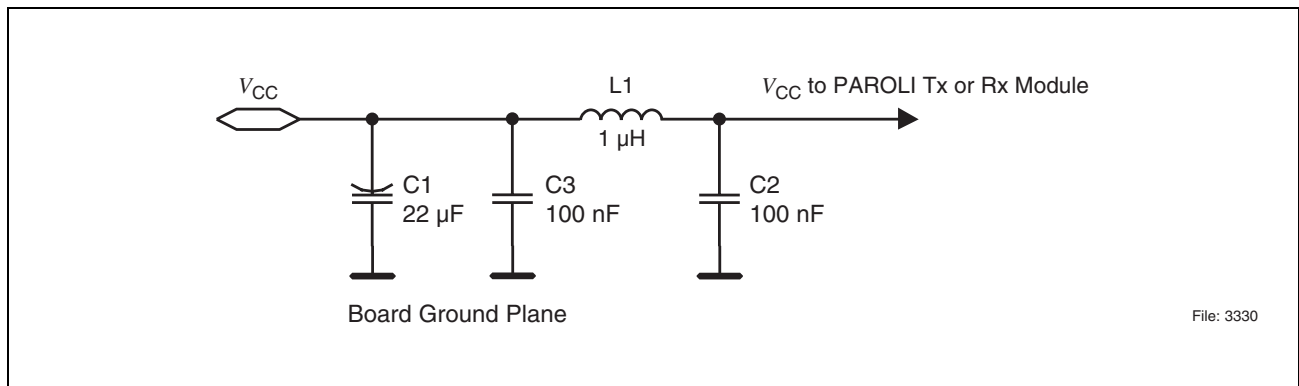

Figure 9 Filtering Scheme
- ²⁾ Noise frequency is 1 kHz to $f_{\max}$, where $f_{\max}$ is equal to the maximum data rate in units of MHz. E.g. for a maximum data rate of 2700 Mbit/s, $f_{\max} = 2700$ MHz. Power supply noise is defined with the recommended filter in place at the supply side of the filtering circuit (see **Figure 9** on **Page 17**).
A power supply filtering is recommended for the transmitter and the receiver module. A possible filtering scheme is shown in **Figure 9**. The module signal and chassis ground refer to a common ground plane, which can be contacted to the PCB ground by the mounting screws (see **Figure 17 “PCB Layout” on Page 28**).